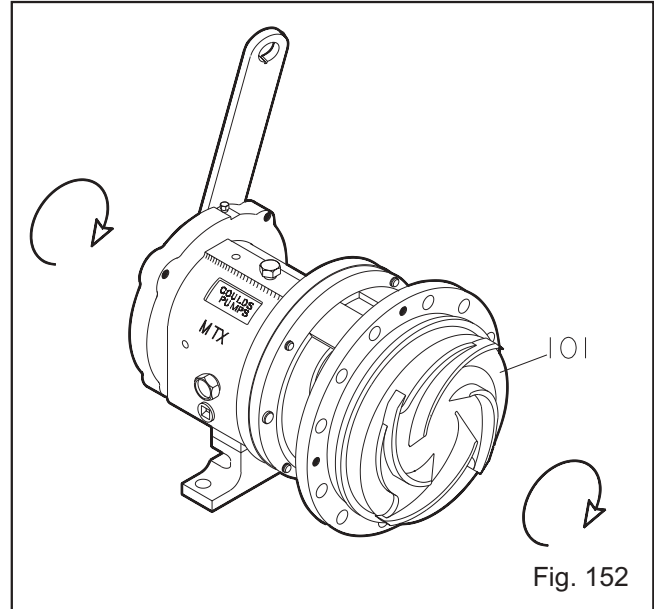

Fig. 152
- Put shaft wrench and coupling key on shaft. When impeller (101) makes firm contact with sleeve (126), raise shaft wrench (counterclockwise, viewed from impeller end of shaft) off bench and slam it down (clockwise, viewed from impeller end of shaft). A few sharp raps will tighten impeller (101) properly (Fig. 152).